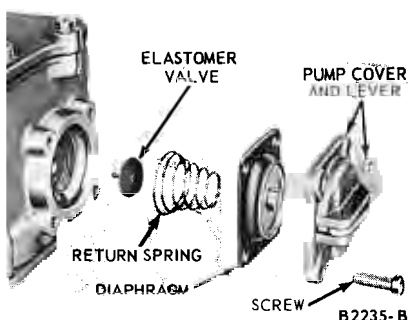

FIG. 22—Accelerating Pump Assembly
operating rod retainer. To release the rod from the retainer clip, press the tab ends of the clip together; then, at the same time, press the rod away from the clip until it is disengaged. Remove the rod. Remove the accelerating pump cover, diaphragm assembly and spring (Fig. 22).
5. If the Elastomer valve was removed, lubricate the tip of a new Elastomer valve and insert the tip into the accelerator pump cavity center hole (Fig. 22). Using a pair of needle nosed pliers, reach into the fuel bowl and grasp the valve tip. Pull the valve in until it seats and cut off the tip forward of the retaining shoulder. Remove the tip from the bowl. Position the diaphragm return spring on the boss in the chamber.